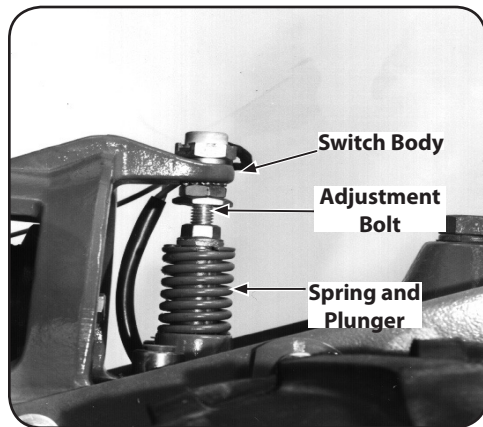

Figure 5-19
When the Wheels/Tines/PTO Drive Lever is moved up into REVERSE, the engine and engine mount move down to press on the reverse adjustment bolt. See Figure 5-19.
The spring and plunger assembly is designed to prevent the reverse disc from making contact with the transmission pulley until you shift into REVERSE. When the lever is in NEUTRAL, the switch body on the bottom of the engine mount tab should be resting squarely on top of the reverse adjustment bolt. See Figure 5-19. The reverse adjustment bolt can be adjusted up or down to correct a number of reverse drive operating problems, as explained next.
6. Move the Wheels/Tines/PTO Drive Lever to NEUTRAL. The switch body on the bottom of the engine mount tab should be resting squarely on top of the reverse adjustment bolt, and the reverse disc should be at least $\frac{3}{16}$ " away from the transmission drive pulley. See Figure 5-19. If the reverse disc is any closer than this, raise the reverse adjustment bolt (turn it counterclockwise).